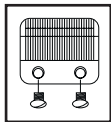

Fig. 1
1. Using a small 3.0 sized screwdriver, loosen and remove the 2 screws on the back of the blades (see Fig.1). **DO NOT MISPLACE THE SCREWS.** Once both screws are removed, the large top blade should come away from the clipper. The small bottom blade should be positioned on the white plastic spring. **NEVER REMOVE THE WHITE PLASTIC SPRING.**